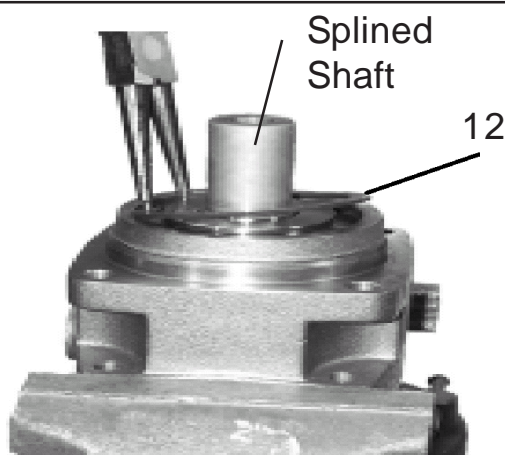

Figure 27
**10.** Install Seal Carrier Retaining Ring. Using Internal Snap Ring Pliers Install the retaining ring (item 12) into bearing housing. This will complete the lower end assembly. (See Figure 27) Remove the bearing housing from the vise and turn it over. Reinstall it into the vise with the gear end up. (See Figure 28)